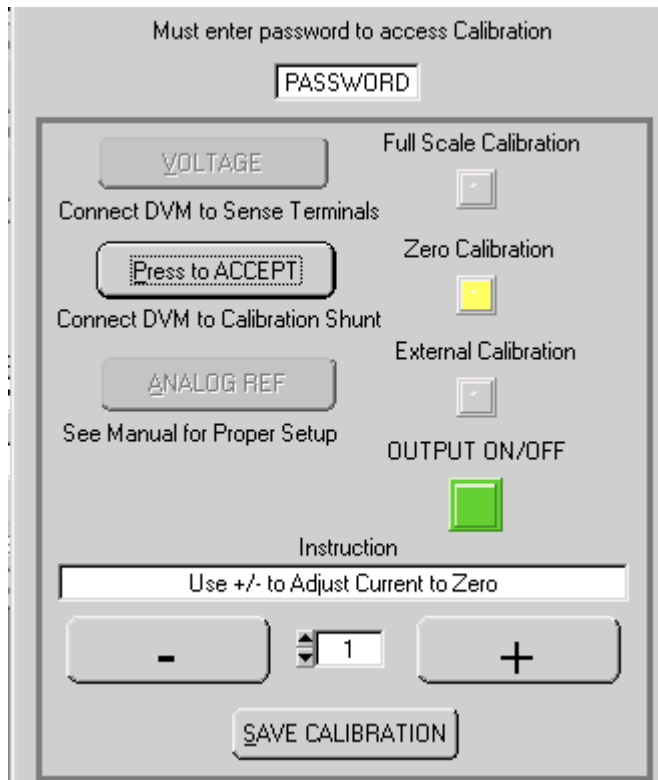

FIGURE 4-4. CURRENT CALIBRATION WINDOW
1. Click the **CURRENT** button on the Calibration Window to start current calibration; a pop-up box appears instructing the operator to connect the shunt across the output terminals. Once the shunt is connected, click OK; the Current Calibration Window (Figure 4-4) appears and the status display on the VXI main panel reads **C_{MAX}**.